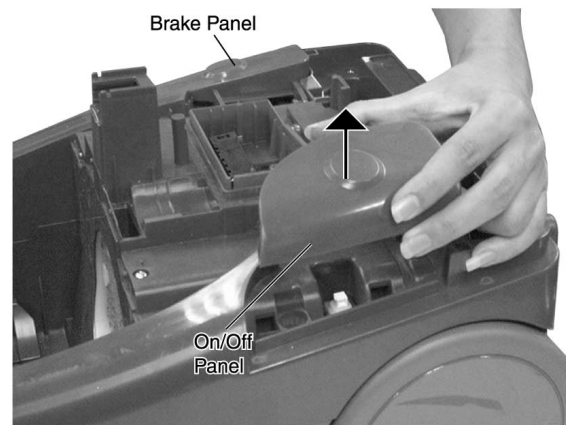

Fig.8
8. Remove Brake pedal and ON/OFF switch pedal. (Fig.8)